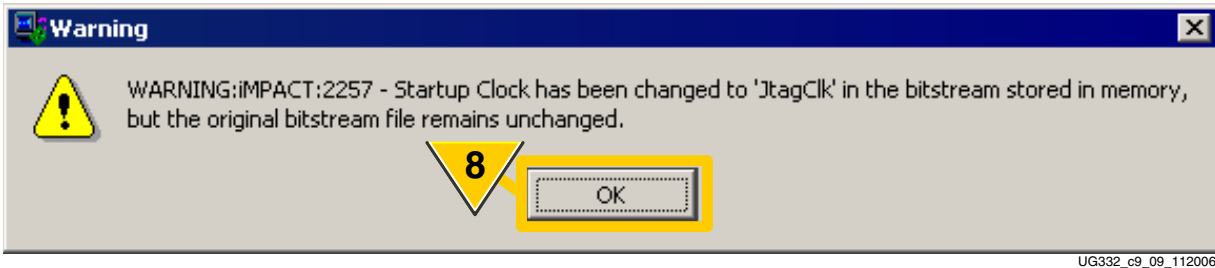

Figure 9-11: **iMPACT Automatically Adjusts FPGA Startup Clock for JTAG Configuration**
- As shown in Figure 9-11, the iMPACT software automatically detects that the FPGA bitstream was generated for a non-JTAG configuration method. The iMPACT software automatically adjusts the Startup clock setting for successful JTAG configuration (*StartupClk:JtagClk*). The original bitstream file is unaffected.